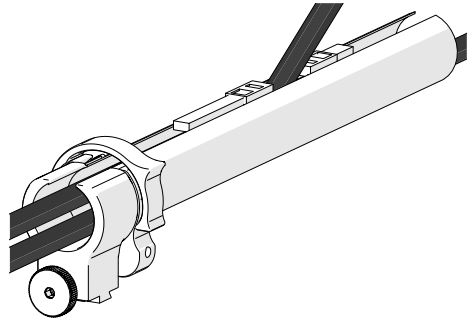

Fig. 80 - Flexibility
4. When necessary, the two zippers may be opened to allow cables to exit the tube anywhere between the ends (Fig. 80).